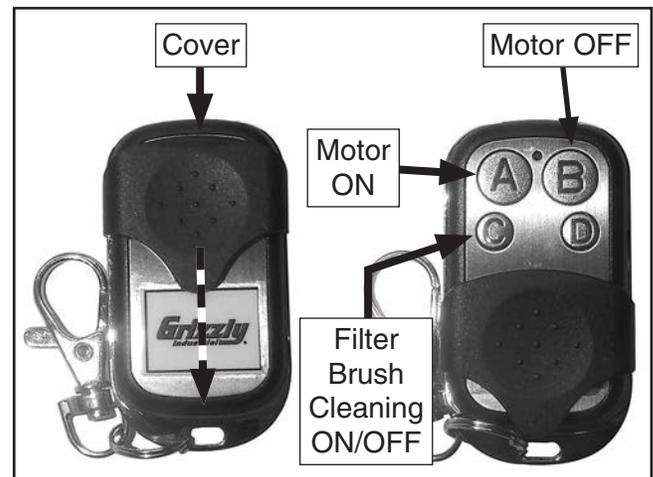

Figure 43. G0849 remote control functions.
8. Test remote control operation and functions (see **Figure 43**).